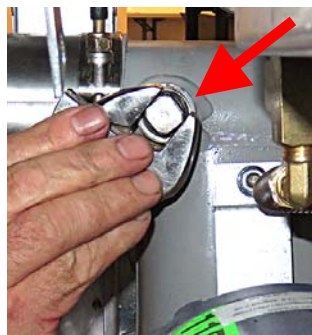

Figure 80
78. Remove the plug from the rear of the drain tube (see Figure 80).